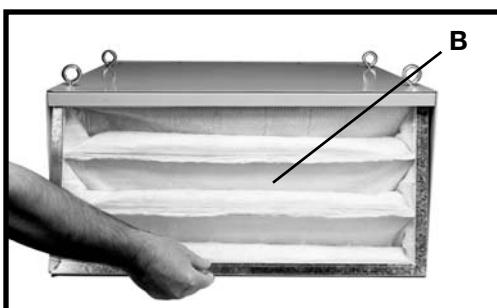

Fig. 9C
4. If the air flow indicator points to "green", the inner filter is still useable. If the indicator points to "red", remove the outer filter, then remove the inner filter (B) Fig. 9C by lifting and pulling out on the bottom of the filter. **DO NOT try to clean the inner filter. It is disposable and must be replaced.**